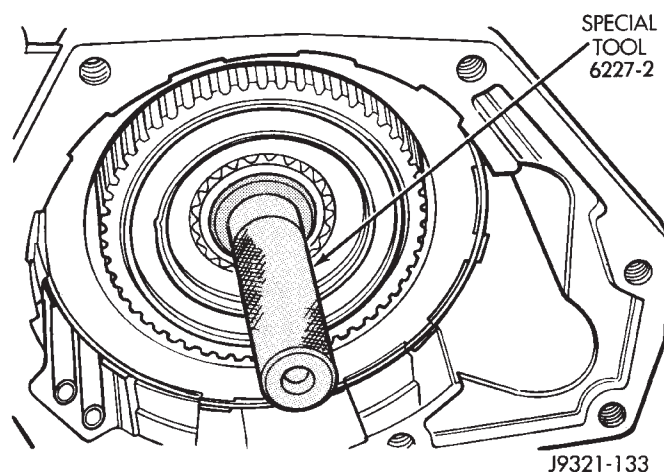

Fig. 155 Checking Alignment Of Overdrive Planetary Gear And Overrunning Clutch Splines—46RH
(42) Apply small amount of petroleum jelly to pilot hub of intermediate shaft.
(43) Verify alignment of splines in overdrive unit planetary gear and overrunning clutch. Be sure Alignment Tool 6227-2 is fully seated (Fig. 155). **If planetary gear and overrunning clutch splines become misaligned, overdrive unit cannot be fully installed on intermediate shaft. Overdrive unit will have to be disassembled in order to realign splines.**